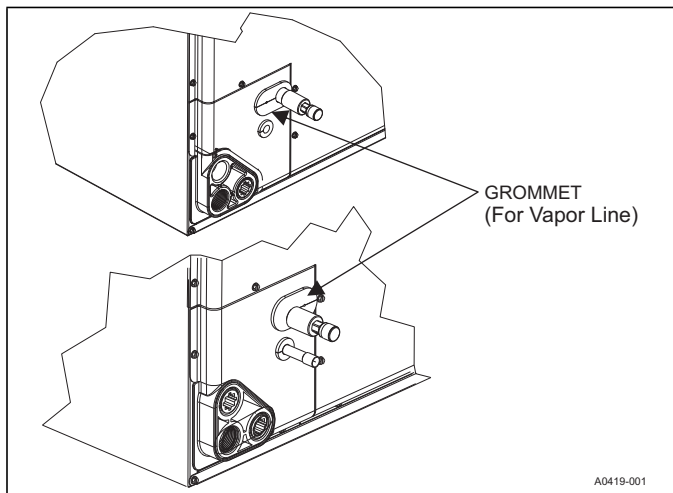

FIGURE 11: Vapor Line Grommet
2. Remove grommets where tubes exit the cabinet to prevent burning them during brazing. In some units, the vapor line grommet may be shipped as a loose part with the unit. Refer to Figure 11.
9. Re-attach the grommets to the lines carefully to prevent air leakage. In some units, the vapor line grommet may be shipped as a loose part with the unit. Refer to Figure 11.